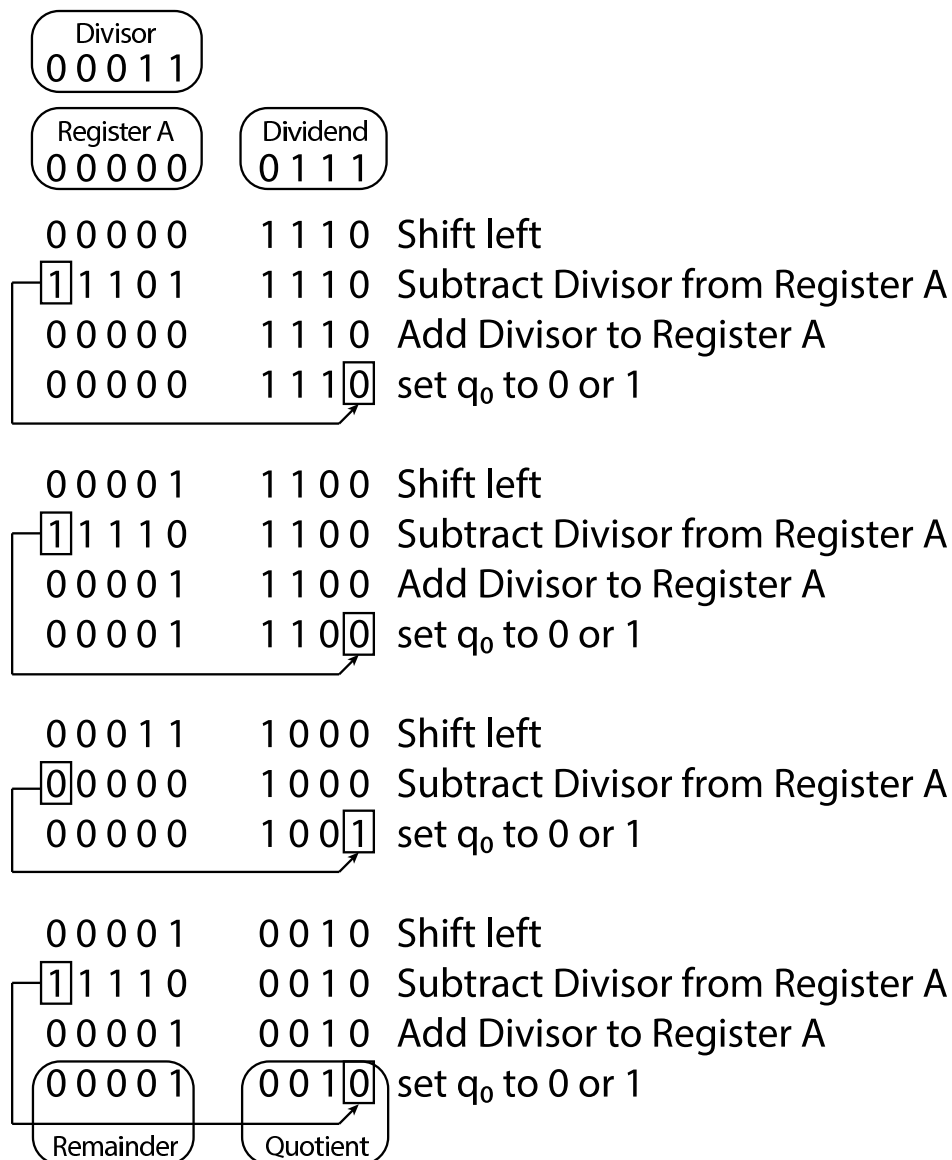
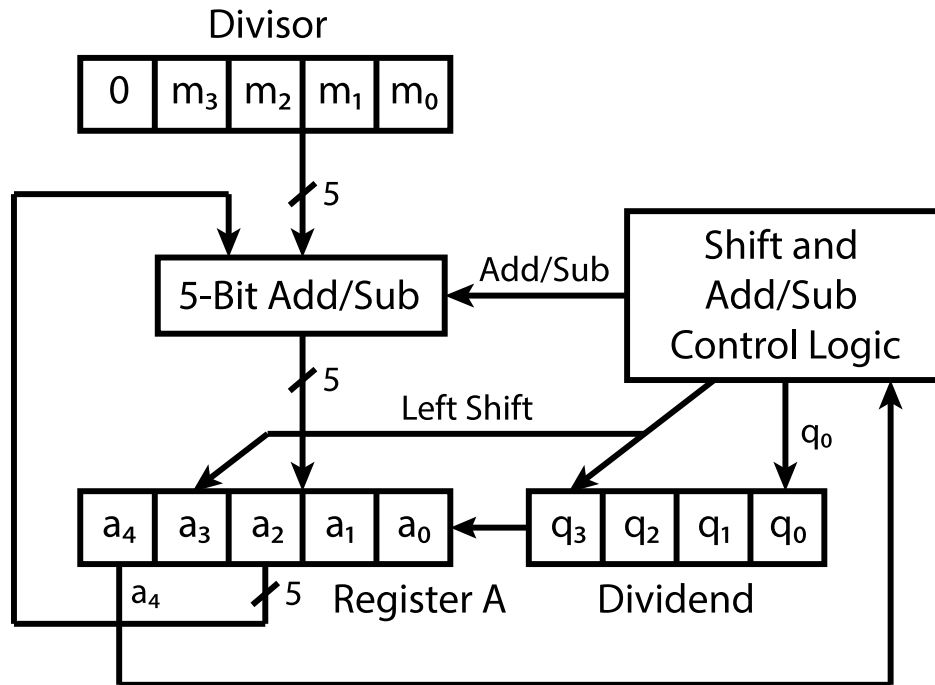

Figure 5: An example showing how the restoring divider works.
Figure 6: Block diagram of restoring divider.
First, you must understand how division is performed in hardware. Figure 5 shows an example of how the restoring divider works. This mimics what you do when you do long division by hand. In this specific example, number 7 (*Dividend*) is divided by number 3 (*Divisor*). The restoring divider starts with *Register A* set to 0. The *Dividend* is shifted left and the bit shifted out of the left most bit of the *Dividend* (called the most significant bit or MSB) is shifted into the least significant bit (LSB) of *Register A* as shown in Figure 6.
1. Draw a schematic for the datapath of your circuit. It will be similar to Figure 6. You should show how you will initialize the registers, where the outputs are taken, and include all the control signals that you require. Do not forget the clock and resets.
2. Draw the state diagram to control your datapath. Check it by hand simulating the example shown in Figure 5. Hand simulation just means to work through the steps using your schematic and state diagram to check whether you can do the required operations before going through the effort of setting up the simulator. This may not catch all bugs, but it is a good step to make sure you have a design that has a chance of working.
6. Simulate your circuit with ModelSim for a variety of input settings, ensuring the output waveforms are correct. Start with Figure 5 as an example because it shows you all the steps with the values that should be in the registers at each step.